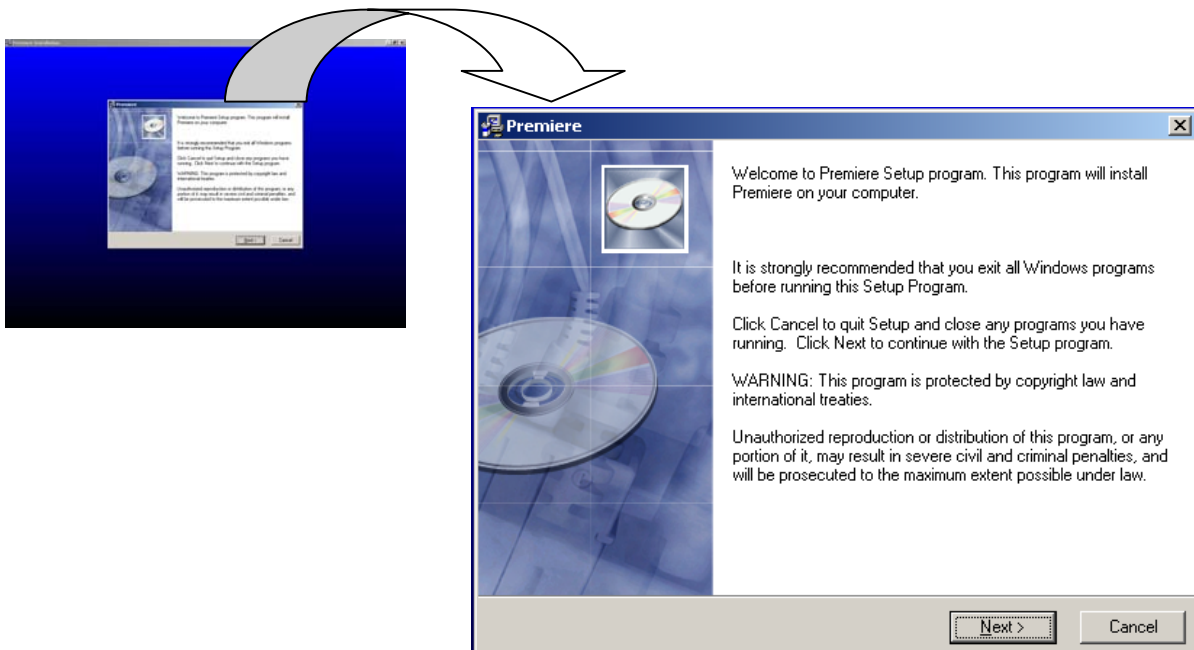

FIGURE 34: Welcome Screen
1. The next screen that appears is the welcome screen that contains some initial instructions and copyright information (see Figure 34). To continue the installation, click on the **Next** function button.